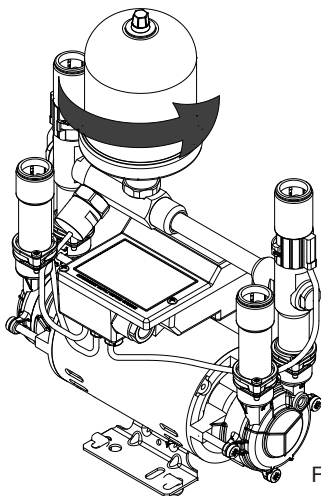

Fig. 35
- Rotate the pressure vessel as shown to unscrew (Fig. 35).